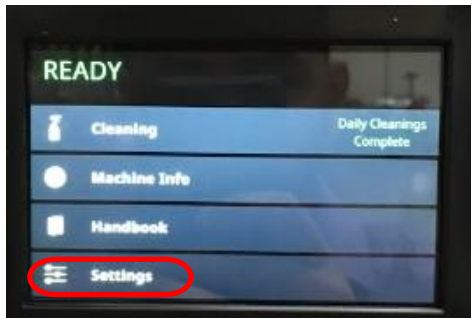

Figure E3: Home Screen with Settings Circled.
2. Select SETTINGS. See Figure E3.
7. Select SETTINGS. See Figure E3.